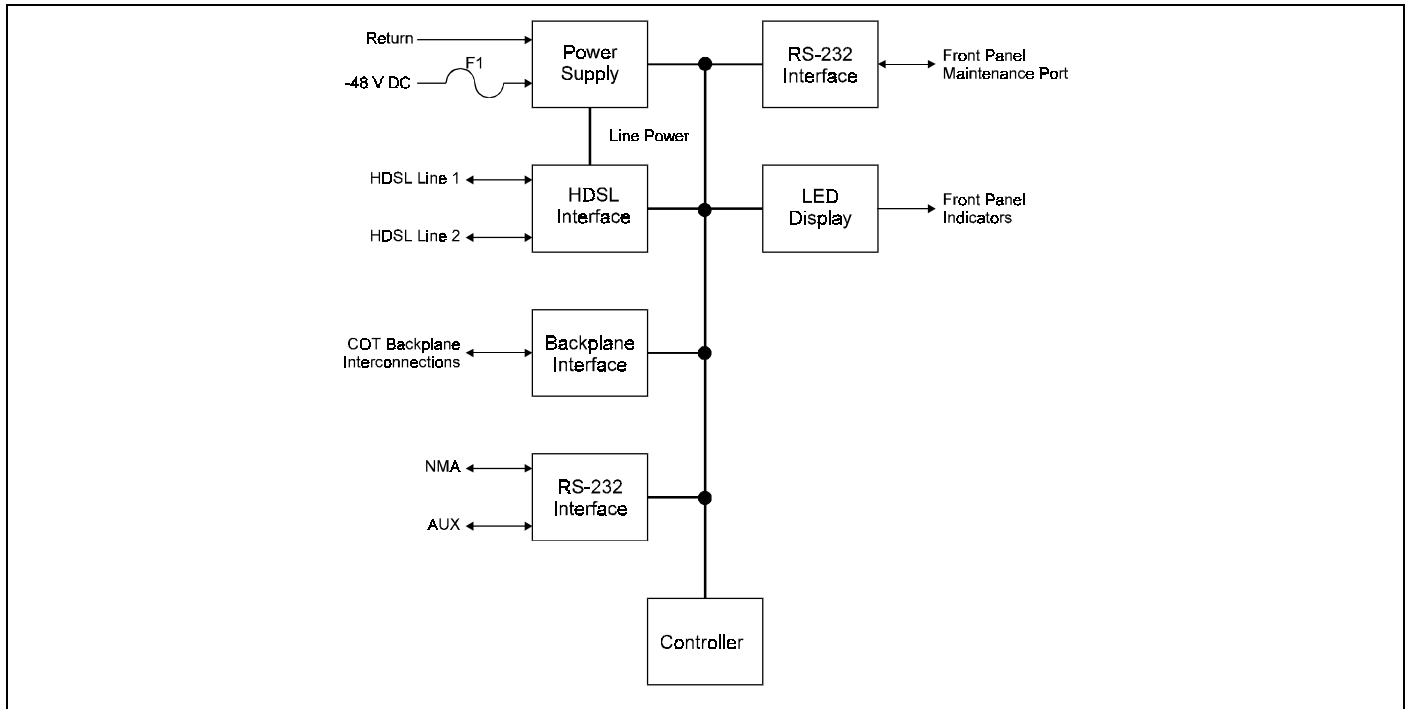

Figure 3. FLL-726 COT Line Unit Block Diagram.
6.02 A block diagram of the FLL-726 is shown in Figure 3. The power supply isolates and converts CO battery into the voltages used by PG-Flex, including ± 130 V dc, which is simplexed onto the HDSL lines. During power-up, the system automatically checks for HDSL line conditions which may indicate a problem with the line or which may present a potentially hazardous condition for the technician; under these conditions, PG-Flex will not complete the power-up process and indicate a line problem on the front panel LED indicators.